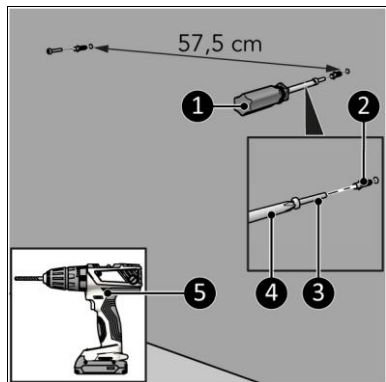

Figure 7
5. Place the plugs (Figure 7, pos. 2) and the screws (Figure 7, pos. 3).
6. Screw them until 10 mm from the wall with a Phillips screwdriver (Figure 7, pos. 1).
9. Check whether the heater is secured tightly. If necessary, tighten the screws (Figure 7, pos. 2) further into the wall.